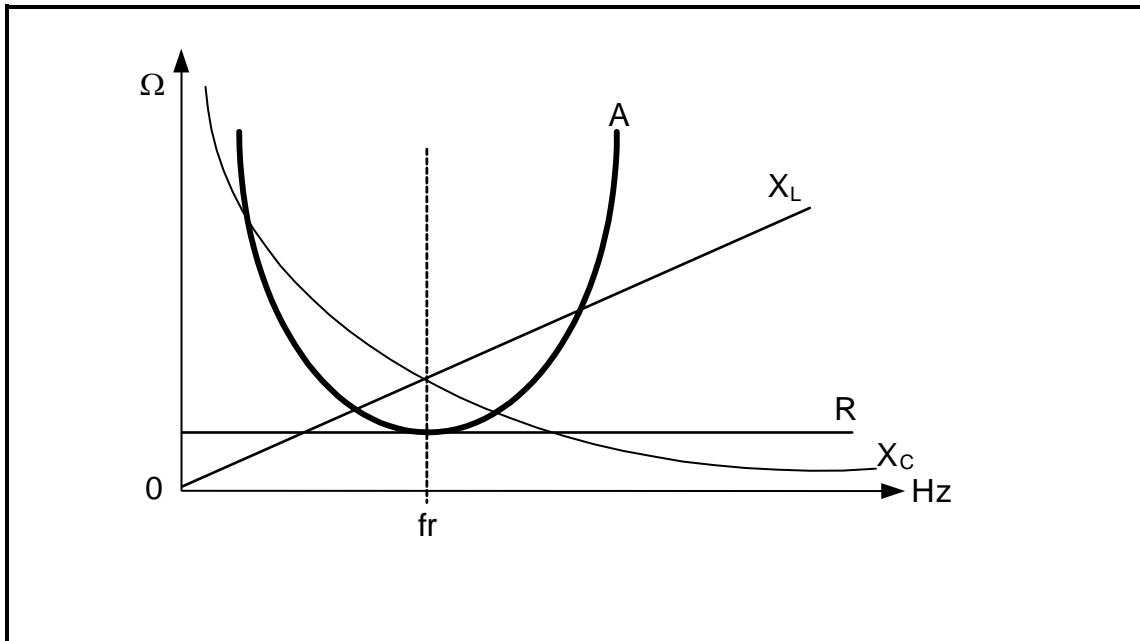

FIGURE 2.5: RESONANCE RESPONSE CURVE
2.5 Refer to FIGURE 2.5 below and answer the questions that follow.
2.5.3 Explain why the inductive reactance in FIGURE 2.5 is represented by a straight line and the capacitive reactance is represented by a curved line. (2)